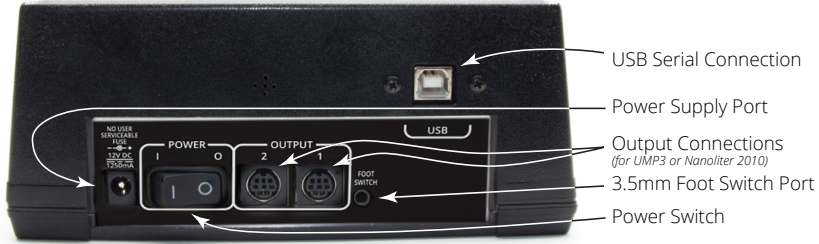

Fig. 9—The rear panel of the MICRO2T controller has the power switch and the connection ports for power, pumps, foot switch and computer control via USB.
4. If the foot switch (WPI# **13142**, not included) is needed, plug it into the foot switch port on the rear panel of the **MICRO2T** controller (Fig. 9).